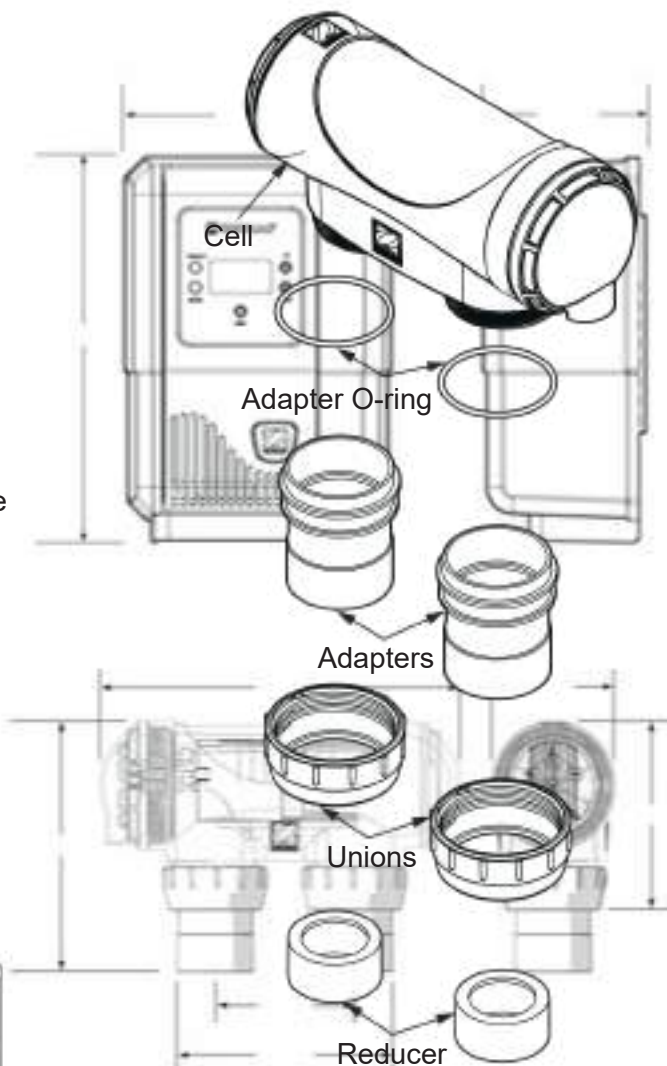

Figure 4. Cell Plumbing Assembly
2. Plumb the cell inlet and outlet on vertical lengths of 50 mm PVC pipe (if using 40mm pipe, use the provided 40mm reducers). The cell inlet and outlet ports are 11.5 cm apart, see Figure 2. The inlet of the cell is on the side closest to the electrical lead, see Figure 4.
3. Put the unions onto the inlet and outlet pipes, see Figure 4.